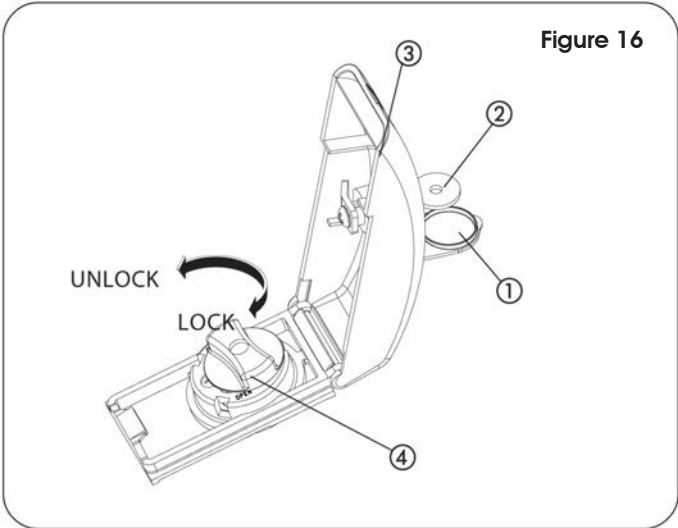

Figure 16
- Lift the protective plug (Fig. 16, Ref. 1) and insert the supplied key (Fig. 16, Ref. 2).
- Turn the key 90° clockwise to open the cover.
- Lift the cover (Fig. 16, Ref. 3).
- Turn the release knob counter-clockwise approximately two complete turns (Fig. 16, Ref. 4).
- To re-lock the operator, turn the release knob clockwise until it stops (Fig. 16, Ref. 4).
- Close the cover and turn the key 90° counter-clockwise (Fig. 16, Ref. 2).
- Finally, remove the key and close the protective plug (Fig. 16, Ref. 1).